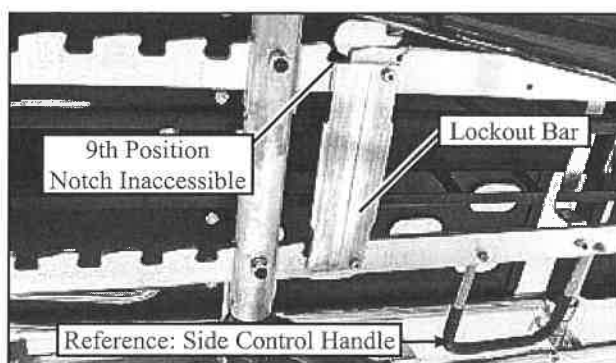

Figure 44 - Lockout Bar with 9th Position Inaccessible (Viewed from Beneath Cot)
1. Use a 1/8" Allen wrench and a 3/8" socket or open-end wrench to remove the two screws from the lockout bar (a large metal plate) that runs between the two ratchet bars (Figure 44).